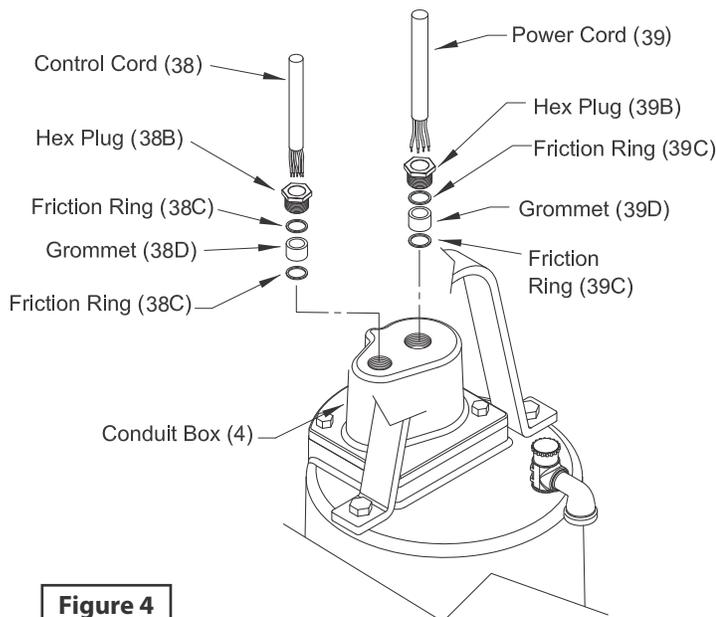

Figure 4
Conduit Box Assembly - Check power (38) and control cables (39) for crackes or damage and replace complete conduit box (4) if required. (See Figure 4) Bring motor wires through opening in top of motor housing (3), check sleeving and replace if damaged. Position square ring (5) in conduit box (4) and reconnect leads using connectors and insulators. See Figures 5, for wiring schematics.
Remove gland nuts (38B) and (39B), friction rings (38C) and (39C), and grommets (38D) and (39D) from conduit box (4), inspect and replace if damaged (See Figure 4). Reassemble by inserting one friction ring, grommet, one more friction ring and gland nut into conduit box. Torque gland nuts to 15 ft/lbs to prevent leakage.